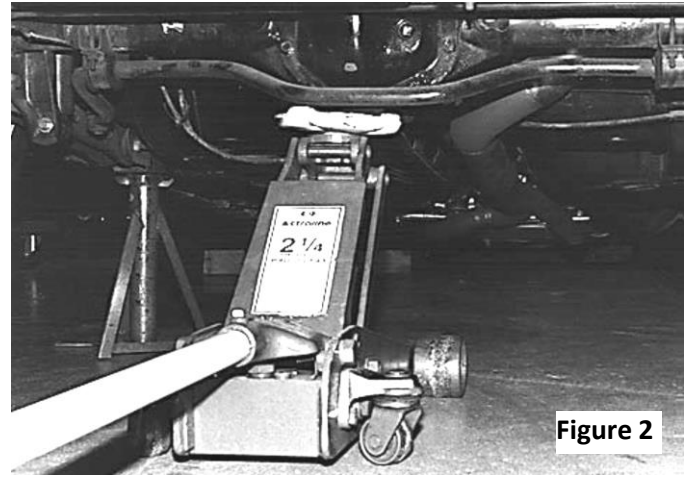

Figure 2
2. Support the rear of the car on jack stands. See **Figure 2.**